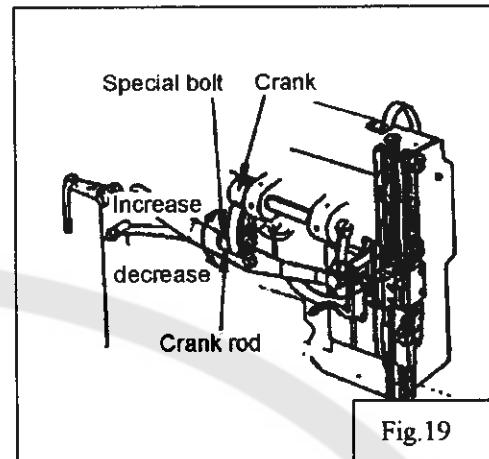

Fig.19
14. Walking foot and presser foot vertical stroke adjustment (Fig.19):